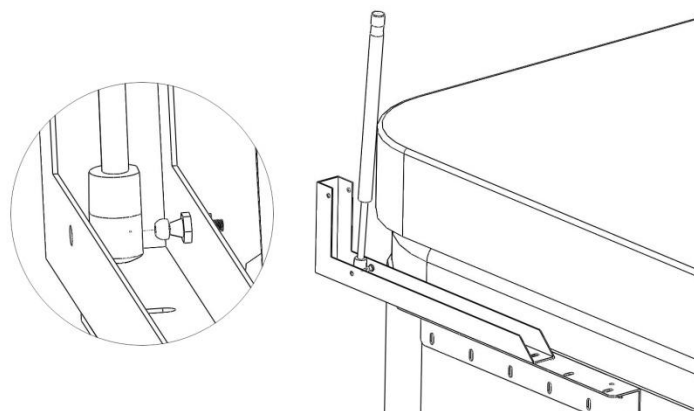

Figure 9
9. Attach the bottom end of the Regular Gas Shock (cvRS) to the Ball Stud (cvB) on the other Channel Bracket (cvBB), by snapping the mouth of the shock onto the spherical part of the Ball Stud (cvB) as shown in Fig 9. Leave the Gas Shocks (cvRS & cvLS) lying in the well of the Channel Bracket (cvBB).